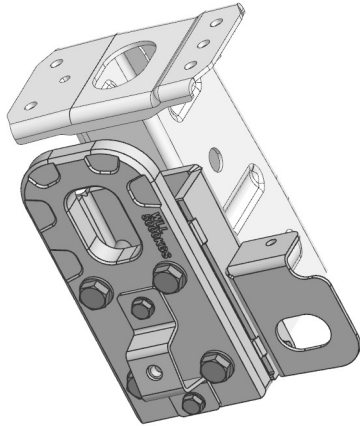

Fig.7
7. Similarly install on the right side of vehicle (**Ranger and Everest**) (fig.7).